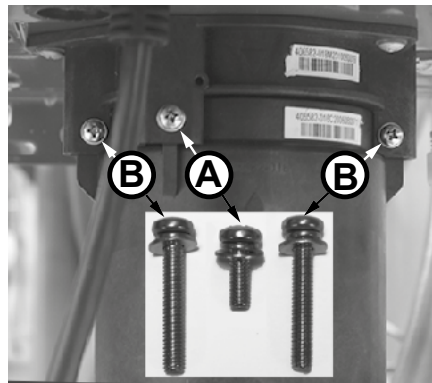

Figure 1 - Identify cartridge screws
- 6 Locate the three (3) screws securing the X3®/Bypass cartridge as shown in Figure 1. Remove the **(A)** M4-12mm screw and the two **(B)** M4-25mm screws from cartridge. Place screws aside in a safe place for reinstallation.